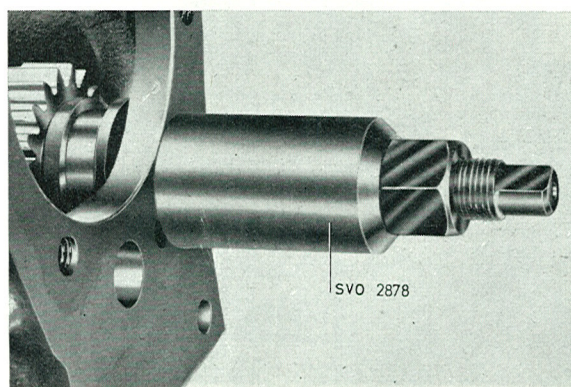

Fig. 4-29. Removing the reverse gear
10. Take out the idler gear. Pull out the shaft for the reverse gear with puller SVO 2878, see Fig. 4-29. Take out the reverse gear and other parts.